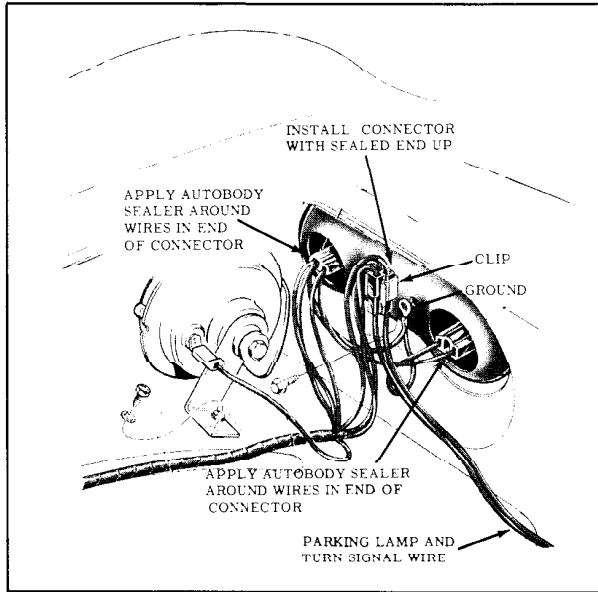

Fig. 11-6 Headlamp Wiring
the retaining clip, then remove ground screw. (Fig. 11-6)
3. Disconnect electrical plug from back of lamp. (Fig. 11-6)